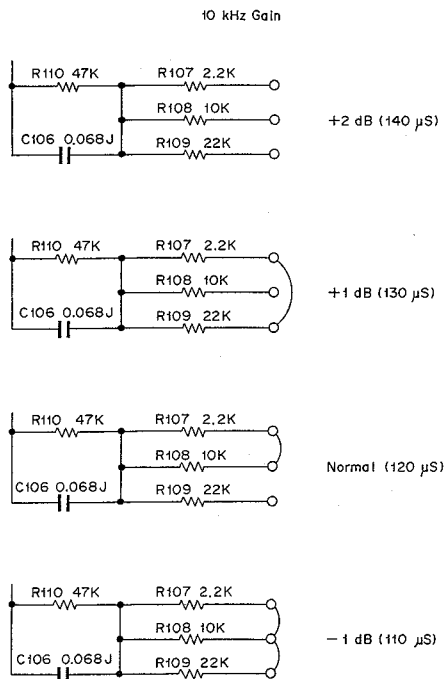
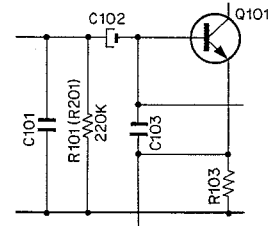

Fig. 6.20 Playback Equalizer Adjustment
Fig. 6.21 PB Head Amp. Peaking Compensation
- (1) Open 22 k Ω of R109,209 of the PB Head Amp. P.C.B. (EQ and time constant shall show 120 μ s).
- (2) Load a 400 Hz Level Tape (DA09005A) to playback, and turn the output level controls till the indication of the VTVM shows 0 dB (for example) or easy reference of value.
- (3) Load a 10 kHz PB Frequency Response Tape (DA09003A) and play it back.
- (4) Check the output of 10 kHz and then, referring to Fig. 6.20, adjust EQ in the range of $110 \mu\text{s} - 140 \mu\text{s}$, the result of which shall be 0 to + 3 dB.
- (5) Load a 15 kHz PB Frequency Response Tape (DA09002A) and play it back.
- (6) If the output of 15 kHz shows the value within ± 2 dB against 400 Hz Level Tape, it is considered satisfactory.
- (7) Load a 20 kHz PB Frequency Response Tape (DA09001A) and play it back.
- (8) If 15 kHz at (5) shows the value within ± 2 dB and 20 kHz being less than -3 dB, replace the playback head.
- (9) Adjustment shall be made so that the level at 10 kHz, 15 kHz and 20 kHz will become flat when compared with 400 Hz.
- (10) If the results are shown to belong to high, set R101,201 to open $- 100 \text{ k}\Omega$. Refer to Fig. 6.21.
- (11) Adjust the azimuth alignment to the maximum output with a 15 kHz Azimuth Tape (DA09004A).